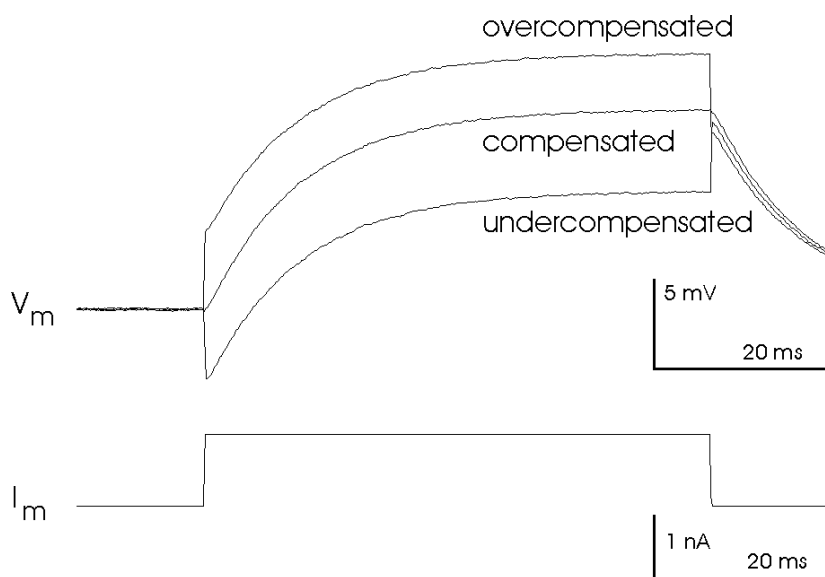

Figure 11: Adjustment of the bridge balance after penetrating a cell
- If necessary readjust the BRIDGE BALANCE as shown in Figure 11.